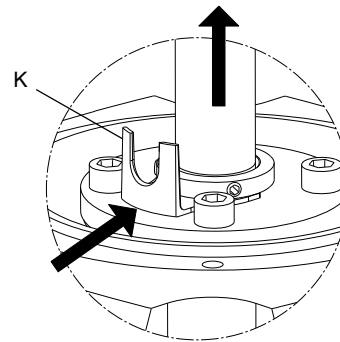

Fig. 2 Fitting adjusting fork
1. Fit rubber springs (pos. 60) and O-ring (pos. 37) in pump head (pos. 2b).
2. Fit O-rings (pos. 79a and 79b) on chamber separator (pos. 79).
4. Fit pump head on outer sleeve (pos. 55).
5. Fit secondary pump head (pos. 2) on pump head.
6. Fit washers (pos. 66a) and cross-tighten nuts (36).
7. Press upper shaft seal (pos. 105a) down the shaft and into the upper pump head.
8. Fit retainer (pos. 58) and cross-tighten screws (58a).
9. Tighten the sockets screws (pos. 113) of the upper shaft seal.
10. Lift pump shaft and insert the adjusting fork between the shaft seal driver and its retainer. See fig. 2.